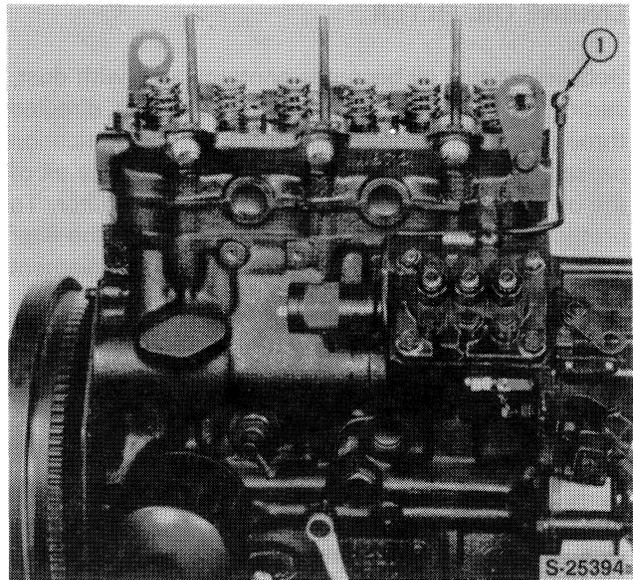

Figure 7
11. Remove the banjo bolt from the oil pressure tube (1) at the front of the cylinder head, Figure 7.